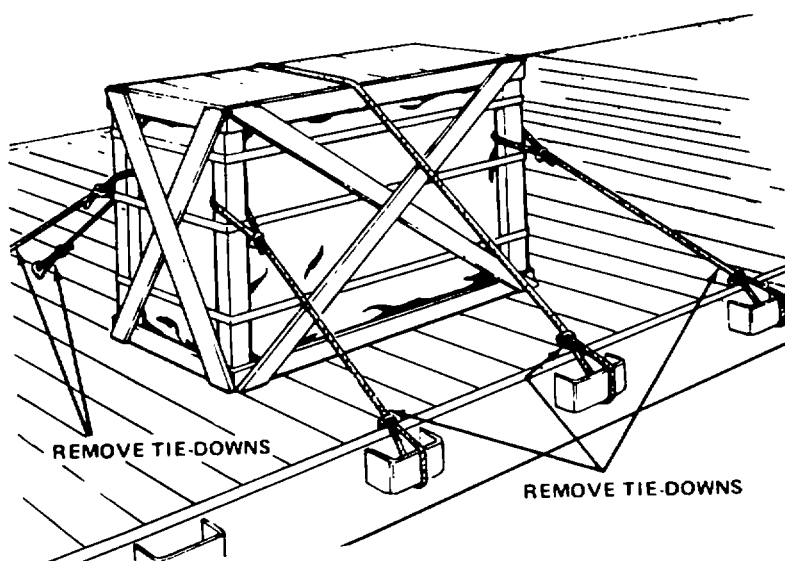

Figure 4-1. Shipping tie-downs.
**a.** Remove tie-downs and blocking that secure the crate to carrier. Refer to figure 4-1.